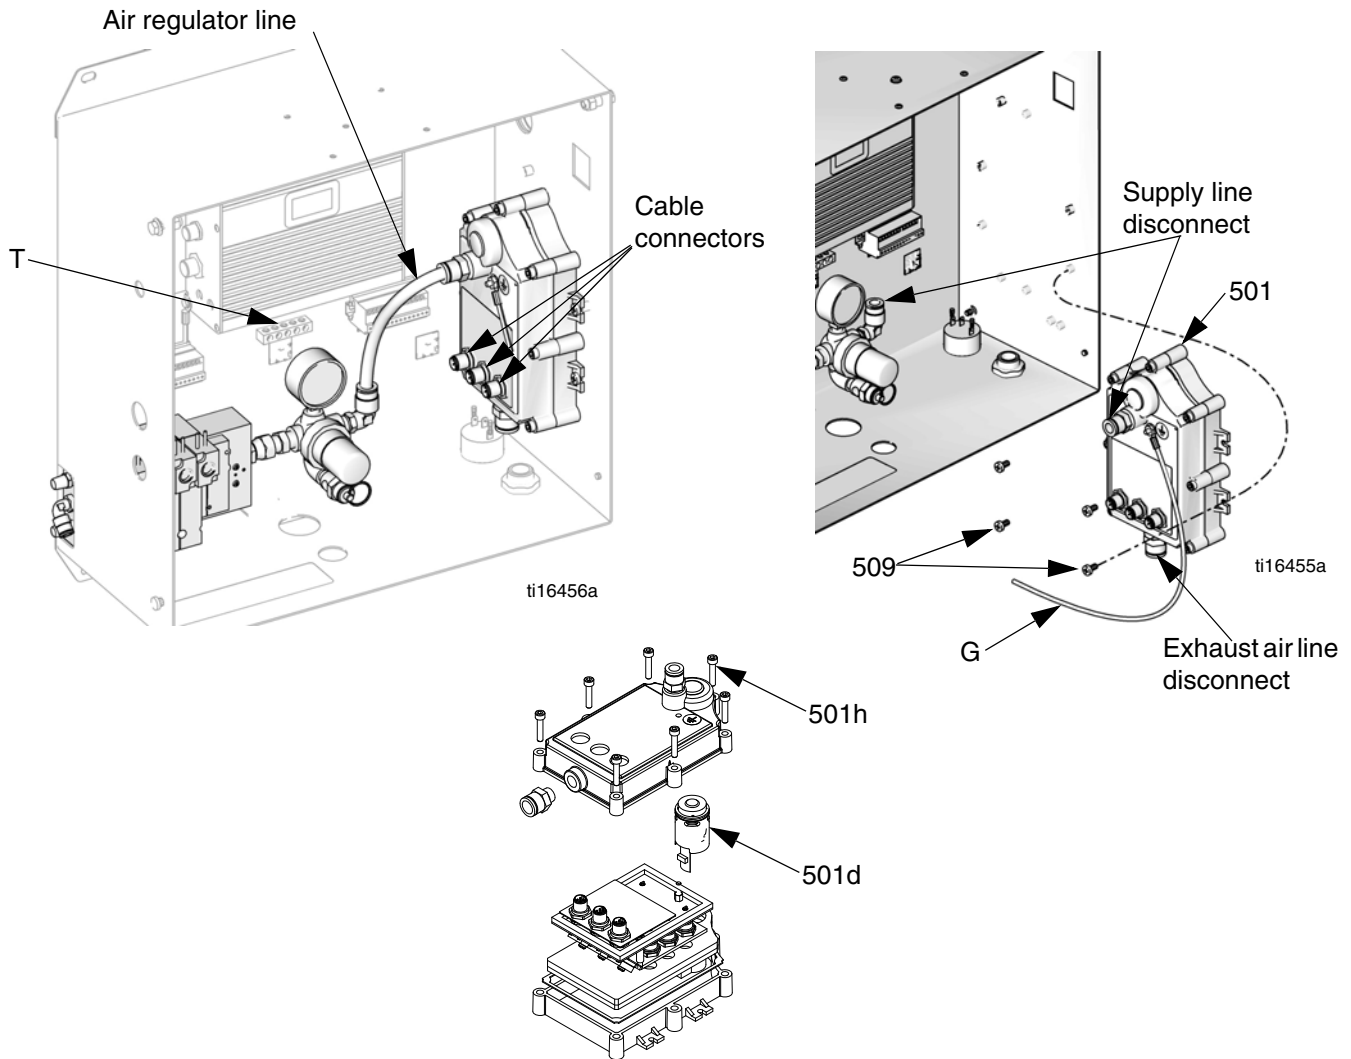

FIG. 9. Remove Alternator Module (and Turbine)
3. See FIG. 9. Disconnect output power cable connections from alternator module (501). Disconnect ground lead (G) from control box ground terminal (T).
6. Remove four screws (509) from mounting to remove alternator from control box.